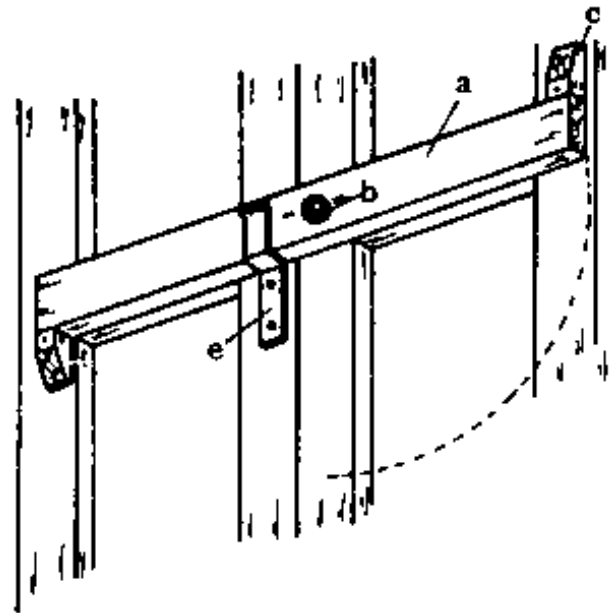
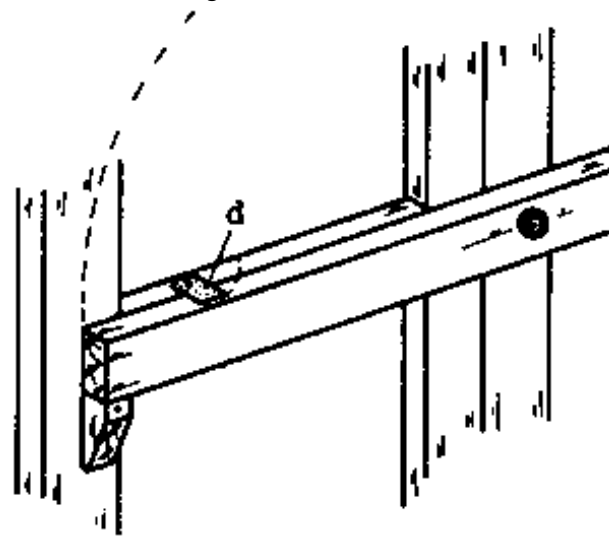

Fig. 4
Fig. 5
- **LOCKING DEVICE FOR LARGE DOORS:** The drawings below show a locking device used for large doors on stores etc, where trucks or other vehicles may have to enter to deliver goods (Fig. 4). It consists mainly of a long haulk (a) which can hold the two doors securely shut. The haulk is fixed with a
Two wooden blocks (c) hold the baulk in position when the doors are closed and a catch (d) prevents the baulk from swinging open by its own weight or from a gust of wind (Fig. 5). A piece of flat iron (e) bent as shown in Fig. 4, keeps the baulk in the locked position. This iron should be firmly attached to the door.